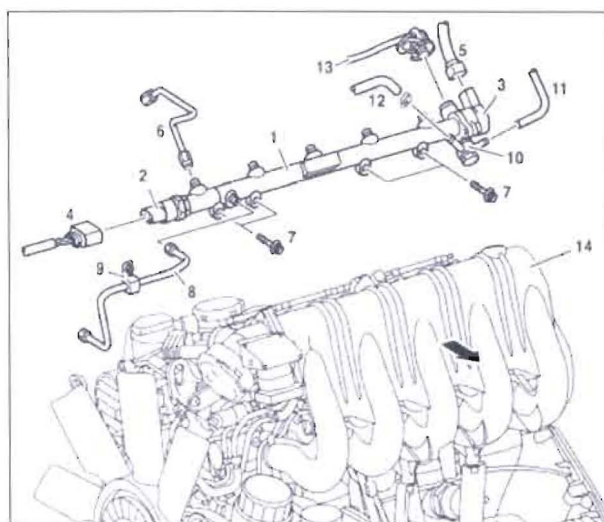

Figure 5
14. Disconnect connector (5, Figure 5) from pressure regulator valve.
15. Disconnect connector (4, Figure 5) from rail pressure sensor.